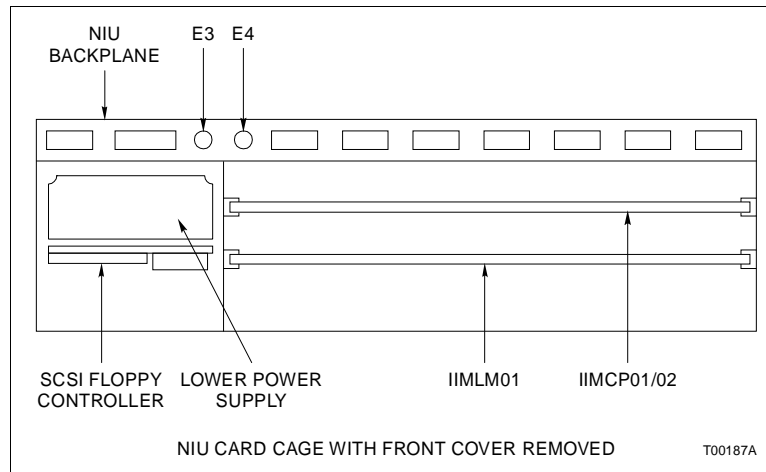

Figure PR33-2. NIU Card Cage with Covers Removed
- 5. Unplug and remove the IIMLM01 module from the NIU backplane (Fig. PR33-2).